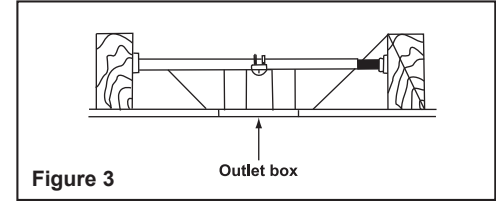

Figure 3
To hang your fan where there is an existing fixture but no ceiling joist, you may need an installation hanger bar as shown in Figure 3 (available at your Progress Lighting Retailer).
Step 1. Check existing outlet box (not included) to ensure it is securely fastened to at least two points in a structural ceiling member and can support the full weight of the fan. Once verified, install ceiling bracket assembly to the outlet box using the screws and washers provided with the outlet box (Figure 3).